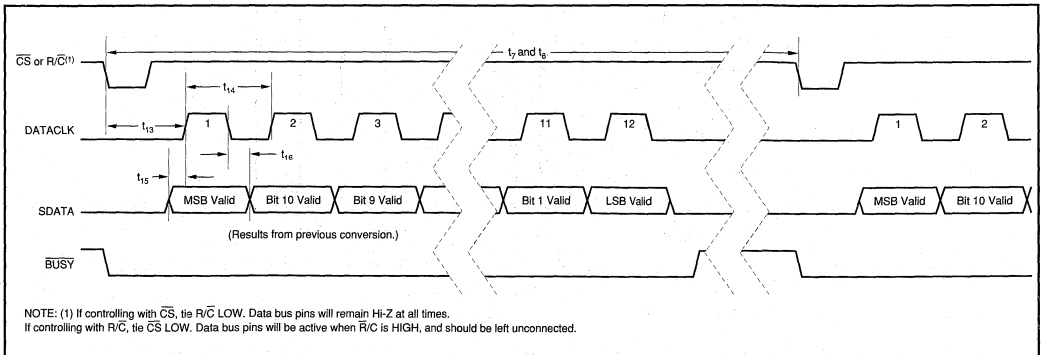

FIGURE 4. Serial Data Timing Using Internal Data Clock (TAG tied LOW).
NOTE: (1) See Figures 4, 5, and 6 for constraints on data valid from conversion "n-1".
To use the internal data clock, tie $\text{EXT}/\overline{\text{INT}}$ (pin 8) LOW. The combination of R/\overline{C} (pin 22) and \overline{CS} (pin 23) LOW will initiate conversion 'n' and activate the internal data clock (typically 900kHz clock rate). The ADS7806 will output 12 bits of valid data, MSB first, from conversion 'n-1' on SDATA (pin 19), synchronized to 12 clock pulses output on DATACLK (pin 18). The data will be valid on both the rising and falling edges of the internal data clock. The rising edge of BUSY (pin 24) can be used to latch the data. After the 12th clock pulse, DATACLK will remain LOW until the next conversion is initiated, while SDATA will go to whatever logic level was input on TAG (pin 20) during the first clock pulse. Refer to Table VI and Figure 4.